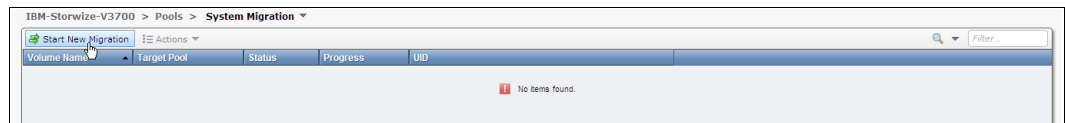

Figure 6-23 Start new migration
3. Start New Migration to open the wizard on the Storwize V3500, as shown in Figure 6-23.